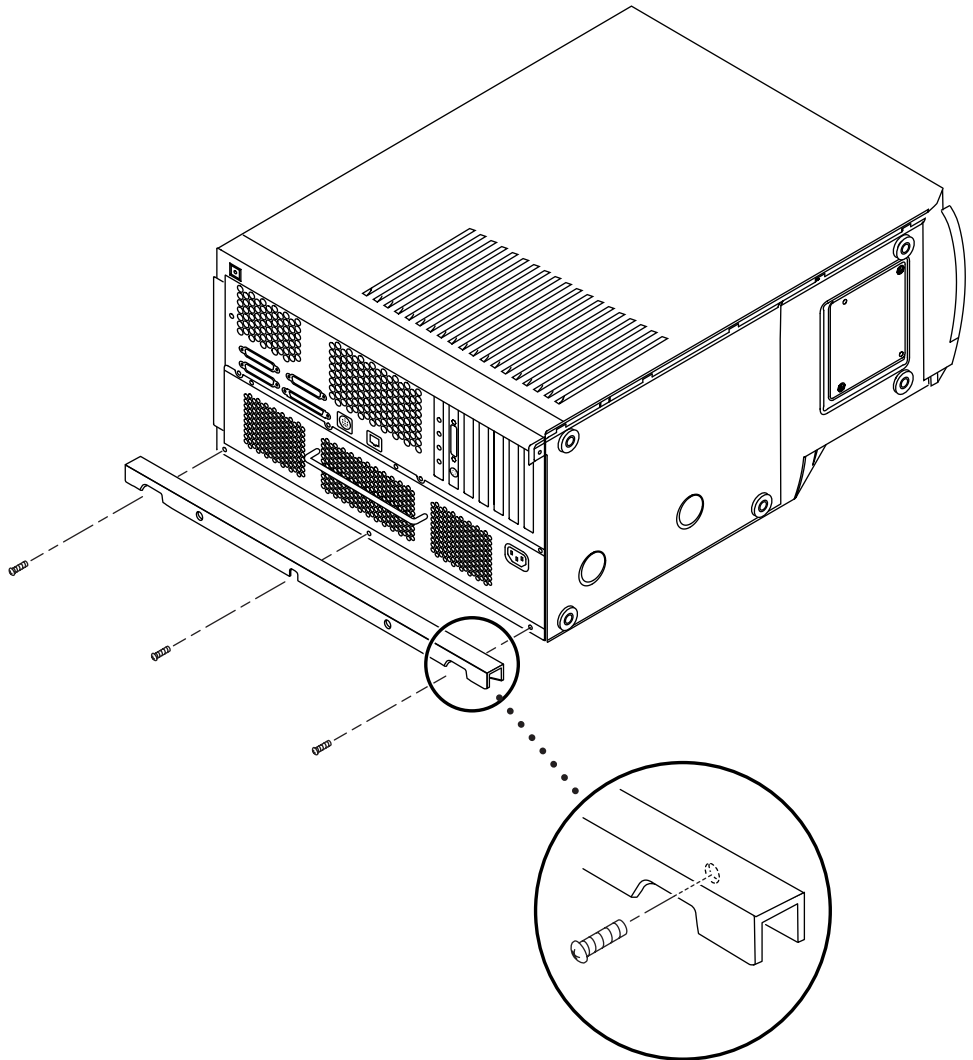

FIGURE 9 Fastening the Mounting Bar to the System
3. Using the three screws you set aside in the previous step, fasten the mounting bar to the system (FIGURE 9).